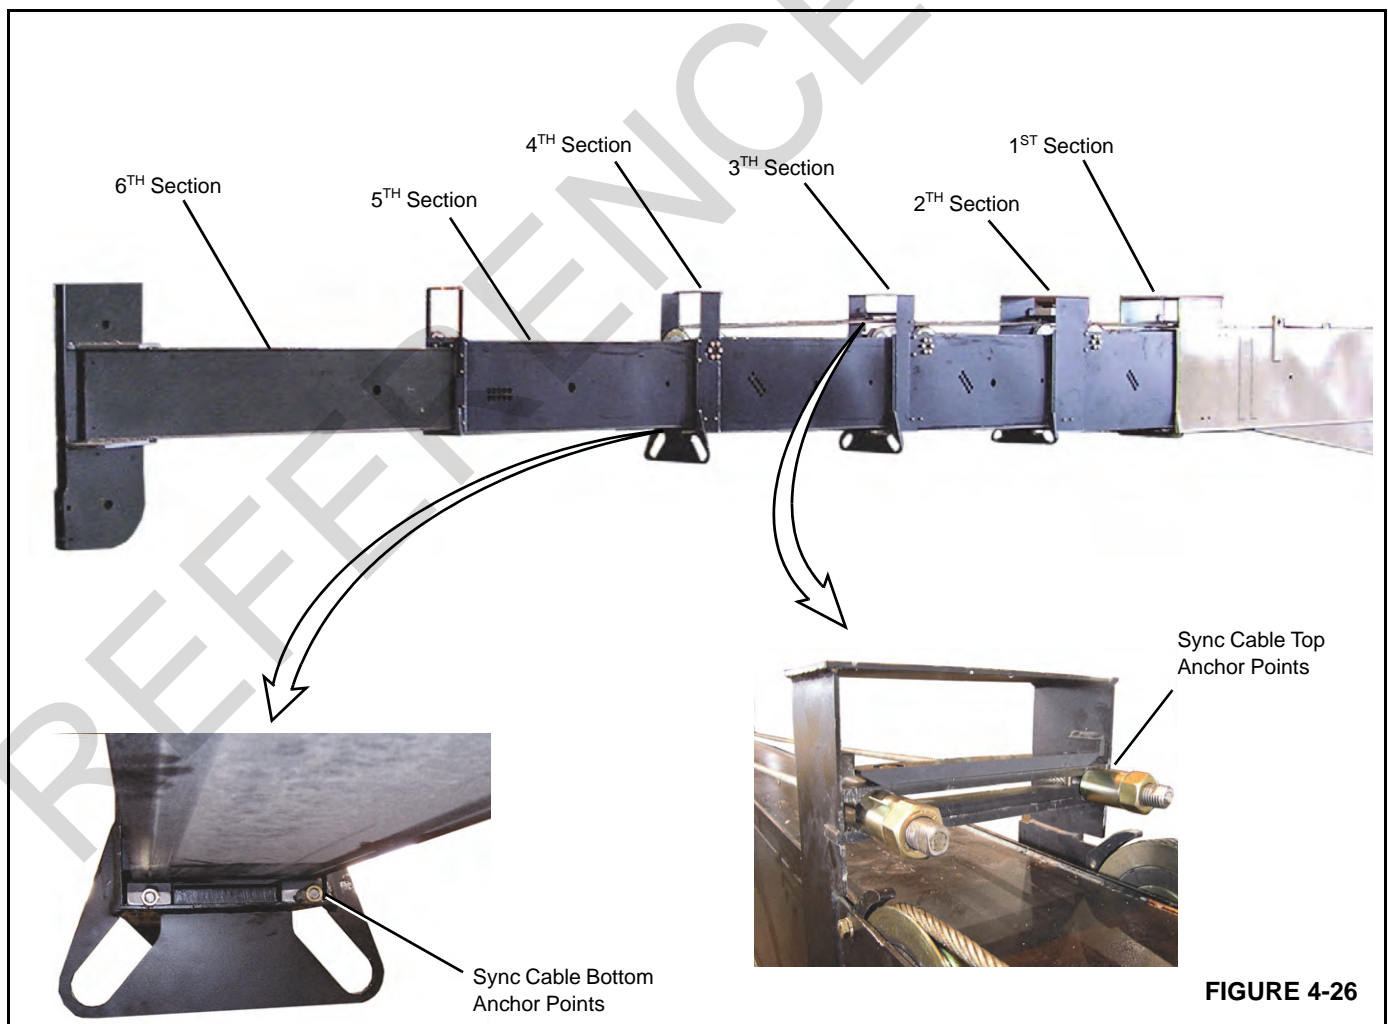

FIGURE 4-26
3. Unbolt the sync cable at both the top front and bottom front of the 1ST section (Figure 4-26).